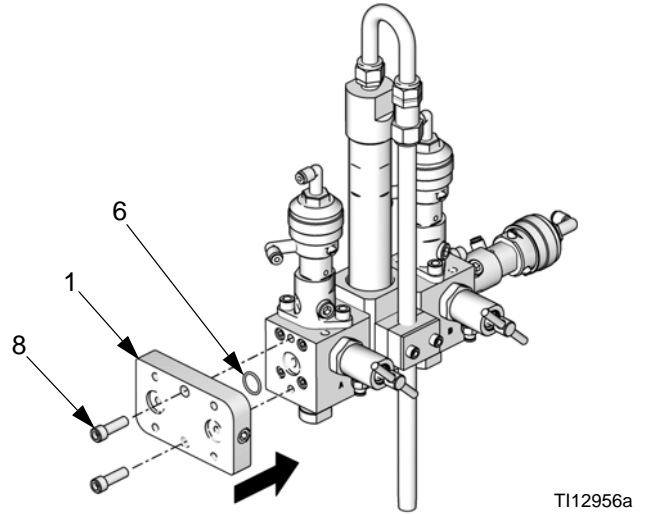

FIG. 5: Install Double Valve Mounting Block
4. See FIG. 5. Install the o-ring (6), double valve mounting block (1), and screws (8).